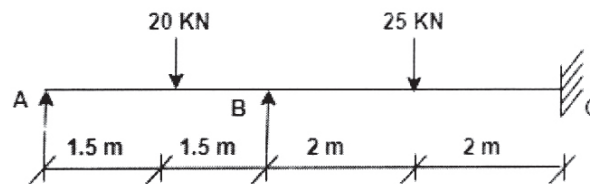

Figure 5
- b)** Analyze the beam shown in figure 5 by Moment Distribution Method. [8]